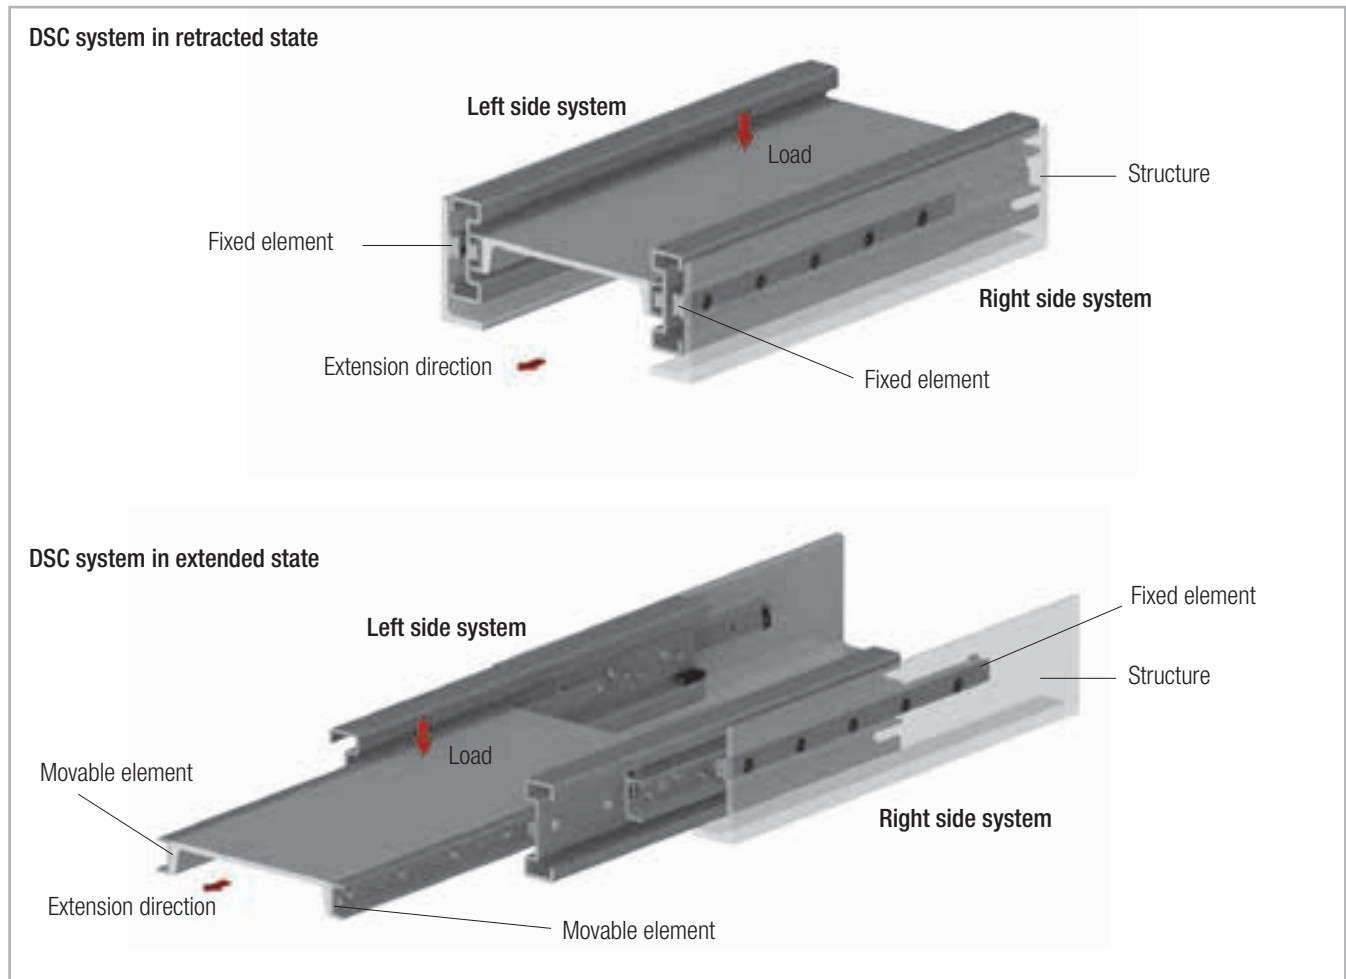

Fig. 76
- During installation make sure that the load is mounted on the movable element (see Fig. 76). Reverse installation will impair proper functioning.